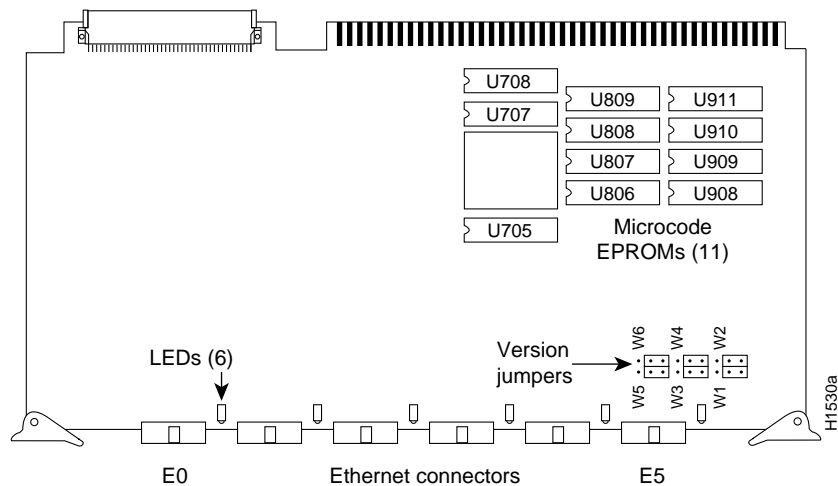

Figure 5-24 CSC-(C2)MEC6 Ethernet Interface Card—Component-Side View
- CSC-(C2)MEC Ethernet interface card, Figure 5-24